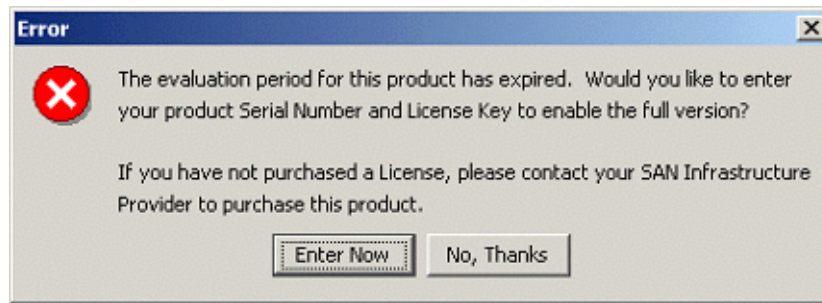

Figure 2-2 Fabric Manager Evaluation Installation Version Expiration Error
After the sixtieth day, the evaluation version expires and an error message is displayed when you launch the trial version of Fabric Manager (see Figure 2-2).
- Click **Enter Now** from the error message that displays when you launch Fabric Manager after the 60 day evaluation period is up (see Figure 2-2). You will need to enter your serial number and license key.